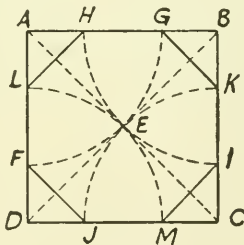

Fig. 623
28. To construct an octagon within a given square (Fig. 623).—Let ABCD be the given square. Draw the diagonals AC and DB intersecting at E. From A, B, C, D, as centres, with radius AE, or BE, etc., describe arcs cutting the sides of the square in F, G, H, I, J, K, L, M. Draw LH, GK, IM, and FJ; and LHGKIMJF will be the octagon required.
To lay out the lines for making a square stick hexagonal, first lay out a hexagon on the end of the stick as in Fig. 623. Then with the gauge mark lines on the sides of the stick, as in Fig. 452.